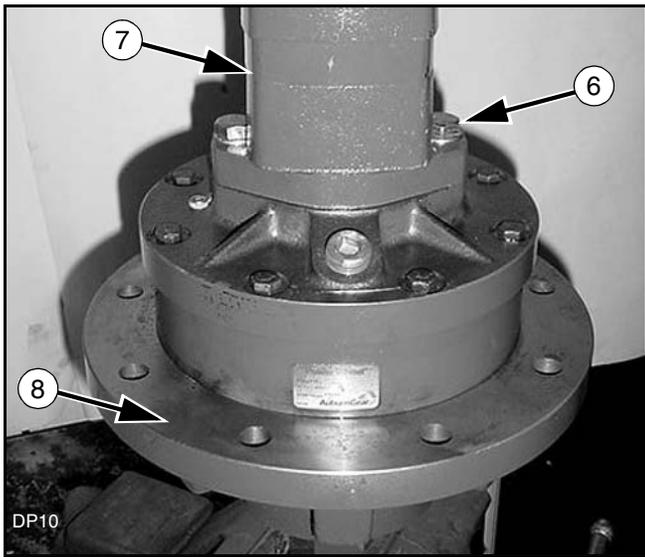

Figure 13.
- Remove the auger head assembly (3).
- Remove the planetary bolts (4).
7. Place the motor/planetary assembly in a vice as shown in Figure 13.
8. Remove the two motor bolts (6).
9. Remove the motor (7) from the planetary (8).